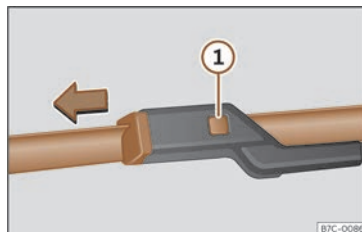

Fig. 187 Changing the windscreen wiper blades
- Press and hold release button >>> **Fig. 187** ① and pull gently on the wiper blade in the direction of the arrow.